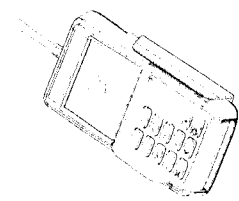

Figure 8
Step 2: Push down the bottom side of shield to combine with the device. And the outlook is the same as Figure 8